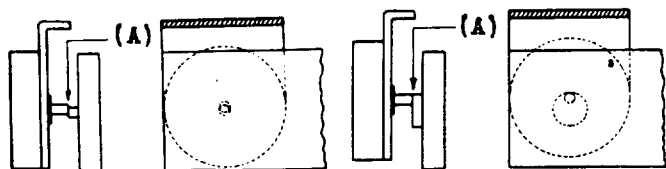

Fig. 2
- 2.06 Contact Alignment - Fig. 2 (A) - Contacts shall line up so that the point of contact falls wholly within the circumference of the opposing contact disc except for opposing contacts having the same diameter in which case their centers shall not be out of alignment more than 25% of the diameter of the contact points. Gauge by eye.